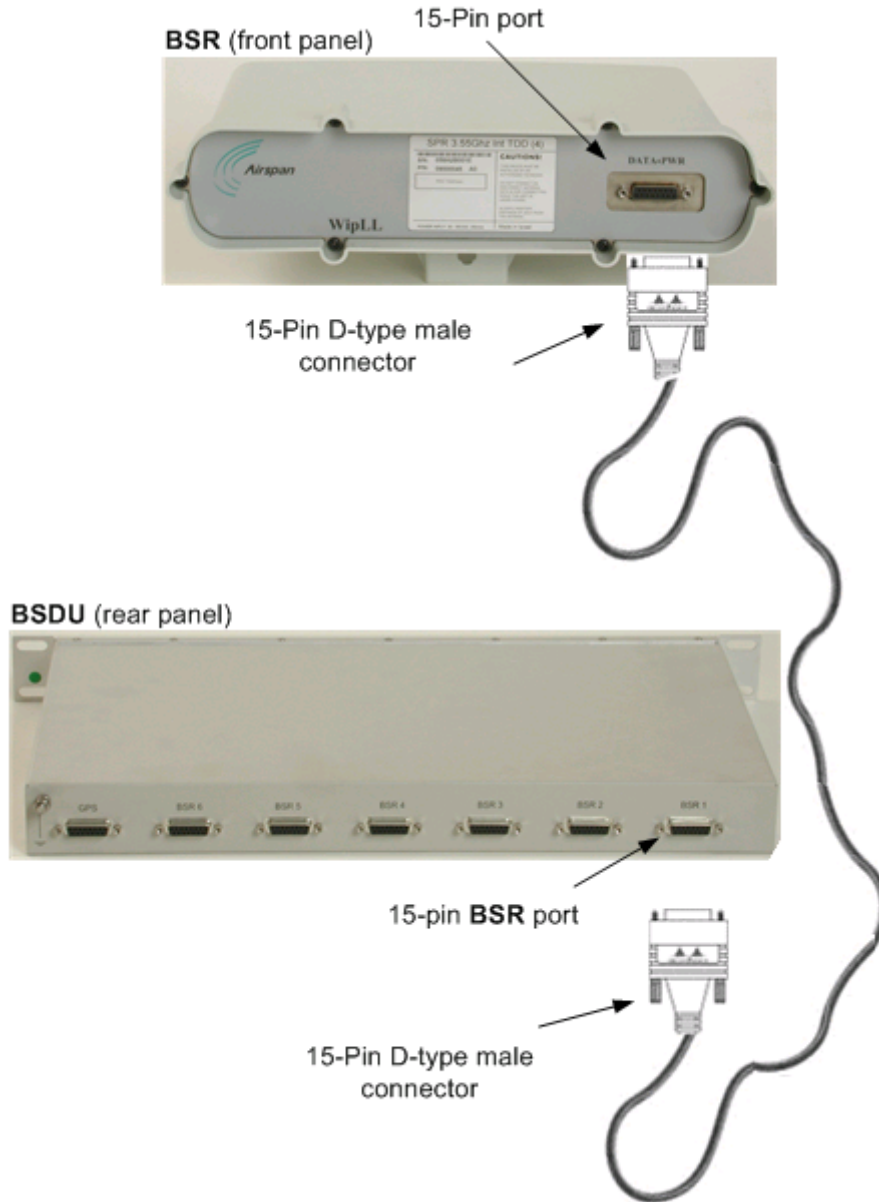

Figure 4-7: BSR-to-BSDU cable connection
1. Attach the **15-pin D-type** connector, at one end of the cable, to the BSR's 15-pin D-type port labeled **DATA POWER SYNC**, as displayed in Figure 4-7.
2. Attach the **15-pin D-type** connector, at the other end of the CAT-5 cable, to the BSDU's **15-pin D-type** port labeled **BSR**, located at the rear of the BSDU, as displayed in Figure 4-7.
Figure 4-7 displays the cable connections between the BSR and BSDU.